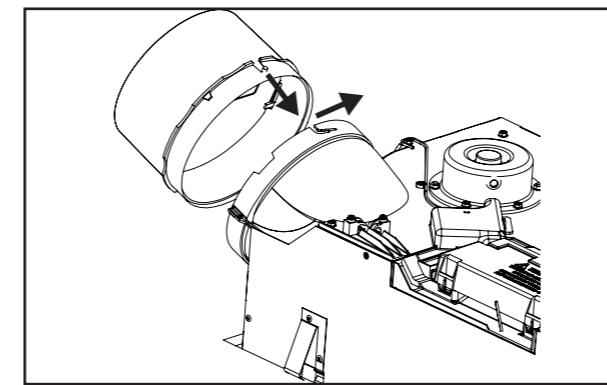

Fig 9.
2. Clip outlet with duct attached to the Tastic body - Engage locking pins and twist to lock (Fig. 9).